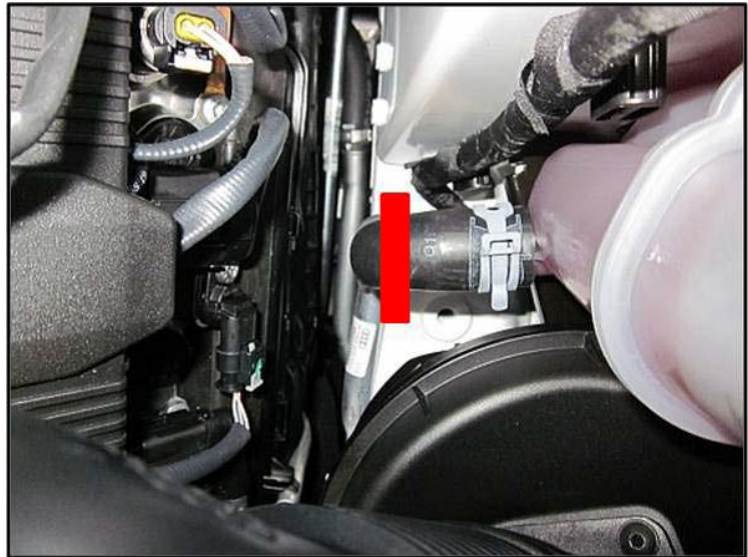

Figure 9. Expansion tank filler hose
4. Release hose clip, disconnect filler hose, and seal off opening on expansion tank immediately with your finger (Figure 9).